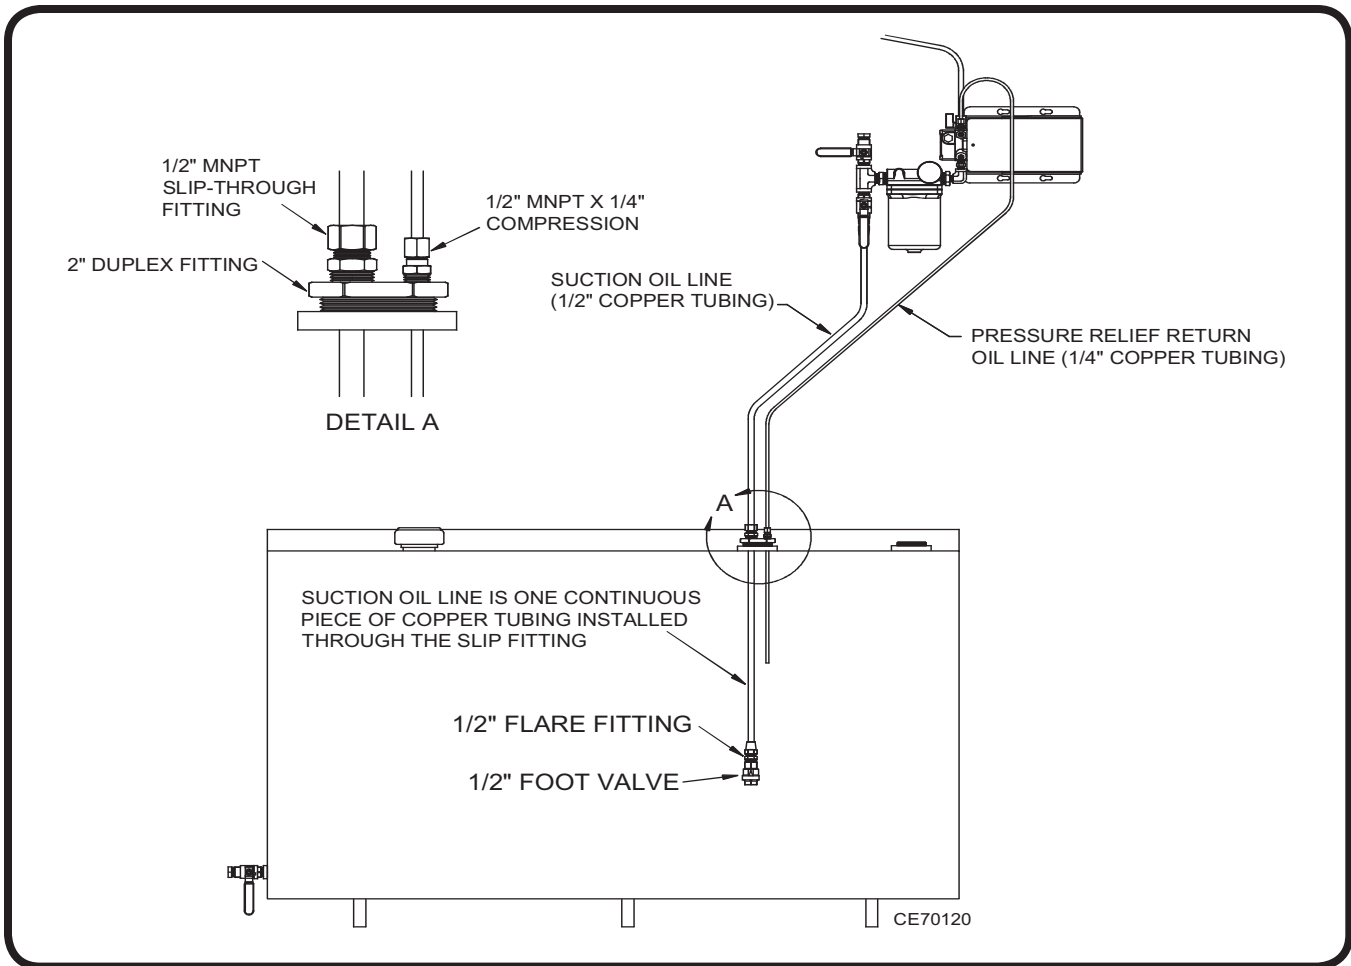

Figure 19: Installing the Suction Oil Line
- (1) Refer to Figure 19.
- (2) Measure the height of the tank. Reduce this measurement by 8" and mark the 1/2" copper suction line tubing at this length.
- (3) Install the 1/2" MNPT slip-through fitting into the side of the 2" duplex fitting marked "S".
- (4) Slide the 1/2" copper suction line tubing through the slip fitting in the 2" duplex fitting up until the mark that was made indicating 8" less than the height of the tank.
- (5) Install the 1/2" flare fitting into the foot valve (arrow on foot valve pointing toward the flare).
- (6) Flare the 1/2" copper suction line tubing and install it on the foot valve.
- (7) Insert the suction tubing into the tank and tighten the 2" duplex fitting.
- (8) Carefully bend the 1/2" copper suction line tubing up to the filter and cut it to length.
- (9) Flare the 1/2" copper suction line tubing and install it on the filter.
- (1) Refer to Figure 19 and 20.
- (2) Install the 1/2" MNPTx1/4" compression fitting into the side of the 2" duplex fitting marked "R".
- (3) Run a piece of 1/4" copper tubing from the pump relief valve back to the tank.